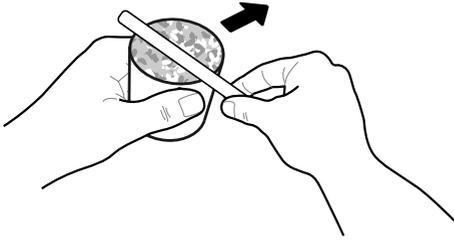

Figure 2.1
1. Use the measuring cup to measure uncooked rice. Overfill the cup, then level it off to get an accurate measurement. [Figure 2.1]